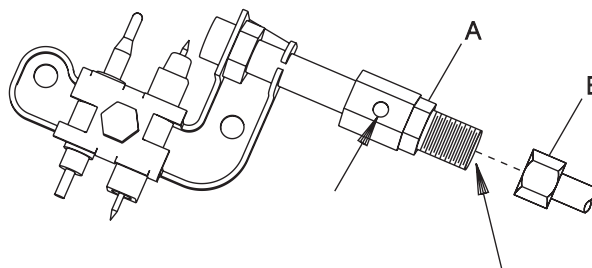

Figure 12
Oxygen Depletion Sensor Pilot (Figure 12)
2. Apply air pressure through the holes in the pilot indicated by the arrows in Figure 12. This will blow out foreign materials such as dust, lint and spider webs.
5. Disconnect pilot tubing from pilot (see Figure 12, Page 12). Grasp nut A with a wrench when removing nut B with a second wrench.
- c. Pilot is blocked from spider web or dirt - clean pilot, see Figure 12, Page 12.
- d. Pilot flame not surrounding thermocouple - clean pilot, see Figure 12, Page 12.
- a. Pilot is blocked - clean pilot, see Figure 12, Page 12.